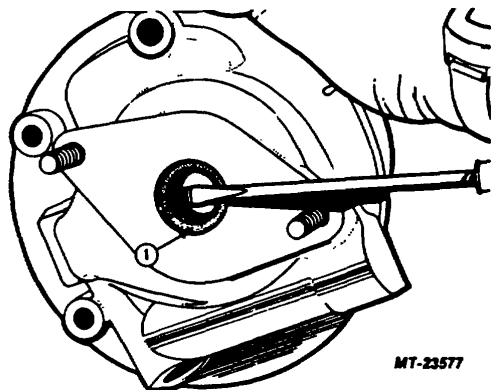

Fig. 22 Remove Seal
19. Remove shaft oil seal with a screwdriver being careful not to scratch seal bore or housing bushing, Figure 22.